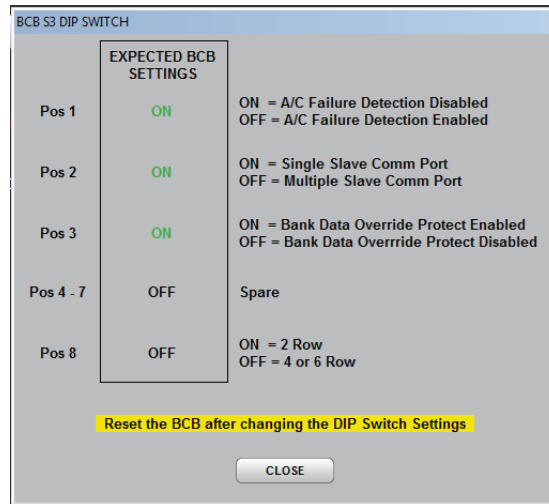

Figure 60 BCB S3 DIP Switch
2. At the BCB S3 DIP Switch field, press 'Reference' to open the BCB S3 DIP Switch pop-up screen (Figure 60).